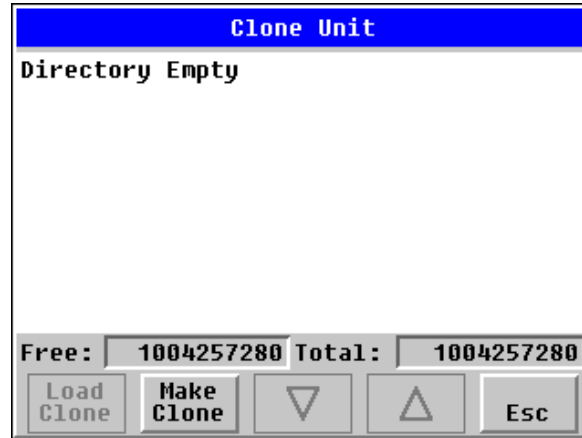

Figure 17.2 - Clone Unit Menu before Cloning
**NOTE:** In the above Figure 17.2, F3 and F4 are inactive in the clone Unit.